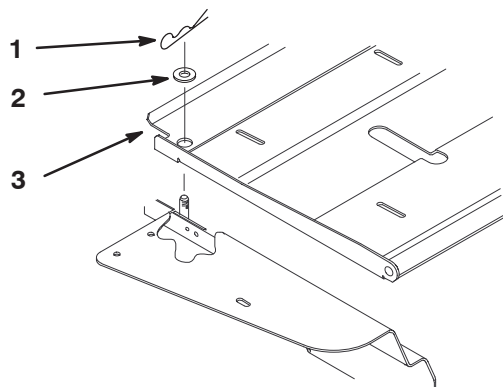

Figure 15
1. To adjust, remove the hairpin cotter and washer, and tip seat forward (Fig. 15).
3. Lower the seat and secure with washer and hairpin cotter (Fig. 15).